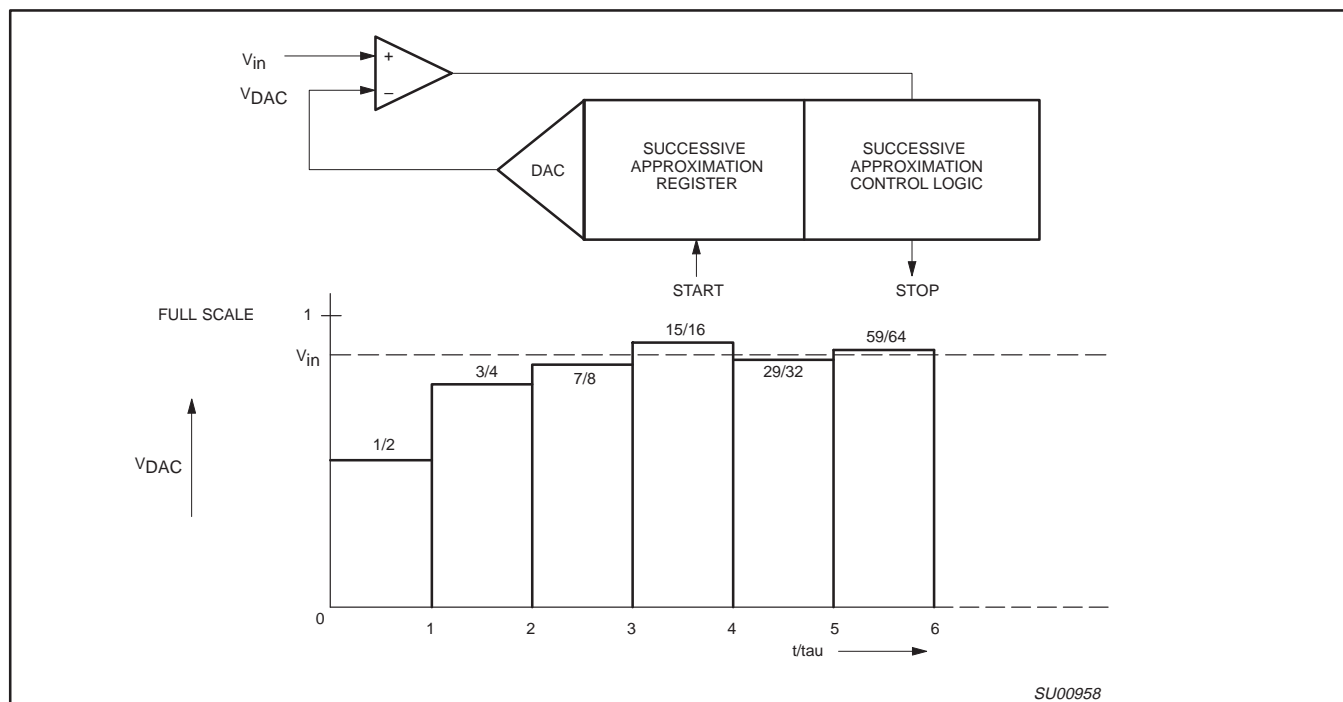

Figure 20. Successive Approximation ADC
10-Bit Analog-to-Digital Conversion: Figure 20 shows the elements of a successive approximation (SA) ADC. The ADC contains a DAC which converts the contents of a successive approximation register to a voltage (VDAC) which is compared to the analog input voltage (V_{in}). The output of the comparator is fed to the successive approximation control logic which controls the successive approximation register. A conversion is initiated by setting ADCS in the ADCON register. ADCS can be set by software only or by either hardware or software.